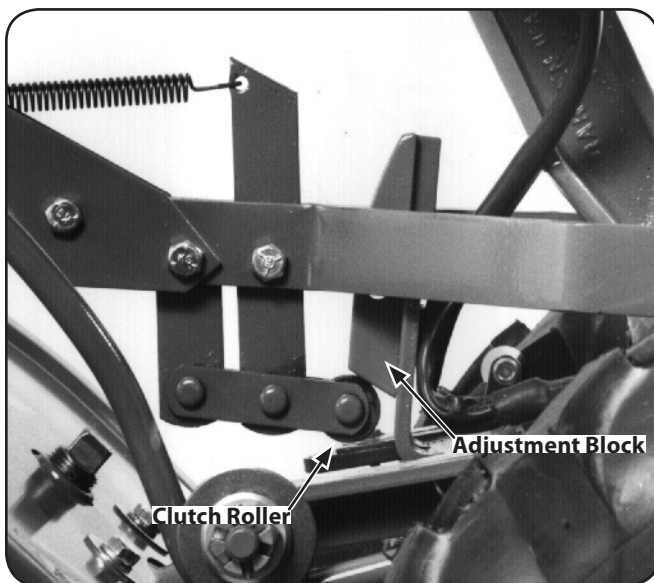

Figure 3-11
- Test the operation of the Wheels/Tines/PTO Lever. Push the lever down until it engages in the Forward position. The clutch roller must rest beneath the adjustment block. Next, move the lever up to the Neutral position. See Figure 3-11.